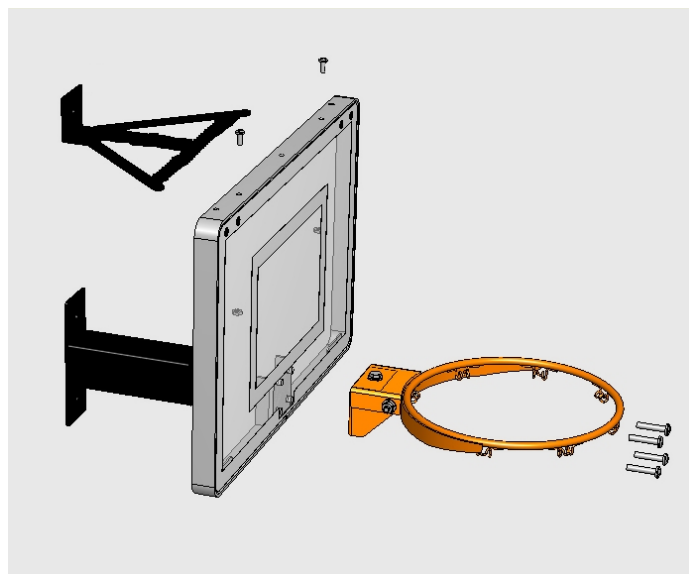

Figure 2
- Stand the Lower Bracket so the four small holes are facing up. **Align the lower bracket so the holes on the tabs run vertically, one above and one below the rim. Mounting the bracket horizontally will substantially change the intended forces on the hoop, not allow you to dunk, and void your warranty. See Fig. 2 & 3**